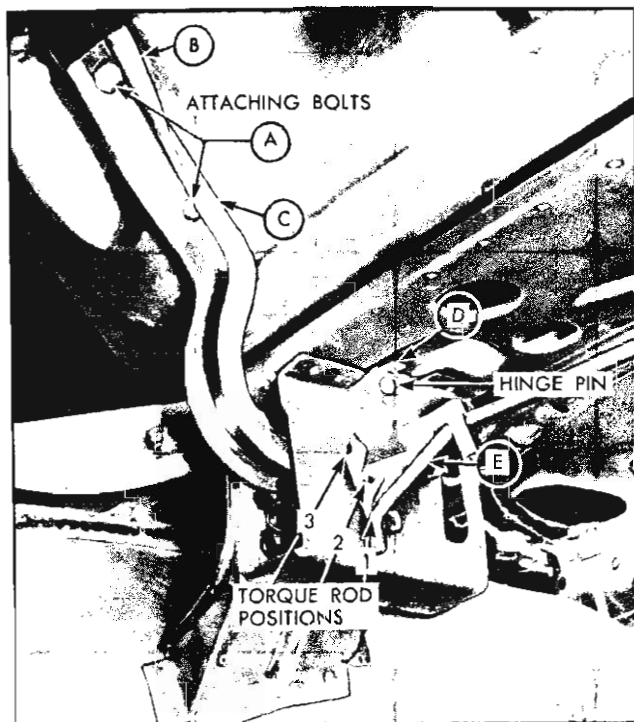

Fig. 83—Rear Compartment Hinge and Torque Rod
4. With aid of helper, remove lid attaching bolts "A" (fig. 83) and remove rear compartment lid.
- a. To raise front edge of lid at hinge area, place shim between lid inner panel and forward portion of one or both hinge straps at "C" Figure 83.
- b. To lower front edge of lid at hinge area, place shim between lid inner panel and rearward portion of one or both hinge straps at "B" Figure 83.
4. With a suitable tool disengage torque rod from notched retainer on inboard face of opposite hinge box "E" (fig. 83).
6. Bend up hinge pin retaining tab on inboard face of hinge box "D" (fig. 83); remove hinge pin and then remove hinge from box.
the torque rod in the notches on the inboard face of the hinge boxes. If the torque rod is located in the lowest most forward notch (position #1), the amount of effort required to open the lid is the greatest and the amount of effort required to close the lid is the least. If the torque rod is located in the top or most rearward notch (position #3) the amount of effort to open the lid is the least and the amount of effort to close the lid is the greatest. See "E" (fig. 83).